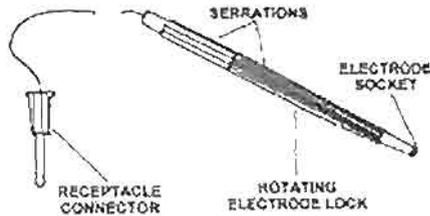

Figure 1-10. Surgical handle.
h. Surgical handle (fig 1-10). The surgical handle consists of a two-piece serrated body which screws together to serve as the locking mechanism to firmly hold a variety of electrodes. The handle includes a single conductor electrical cable and receptacle connector. The surgical handle can be sterilized and reused.